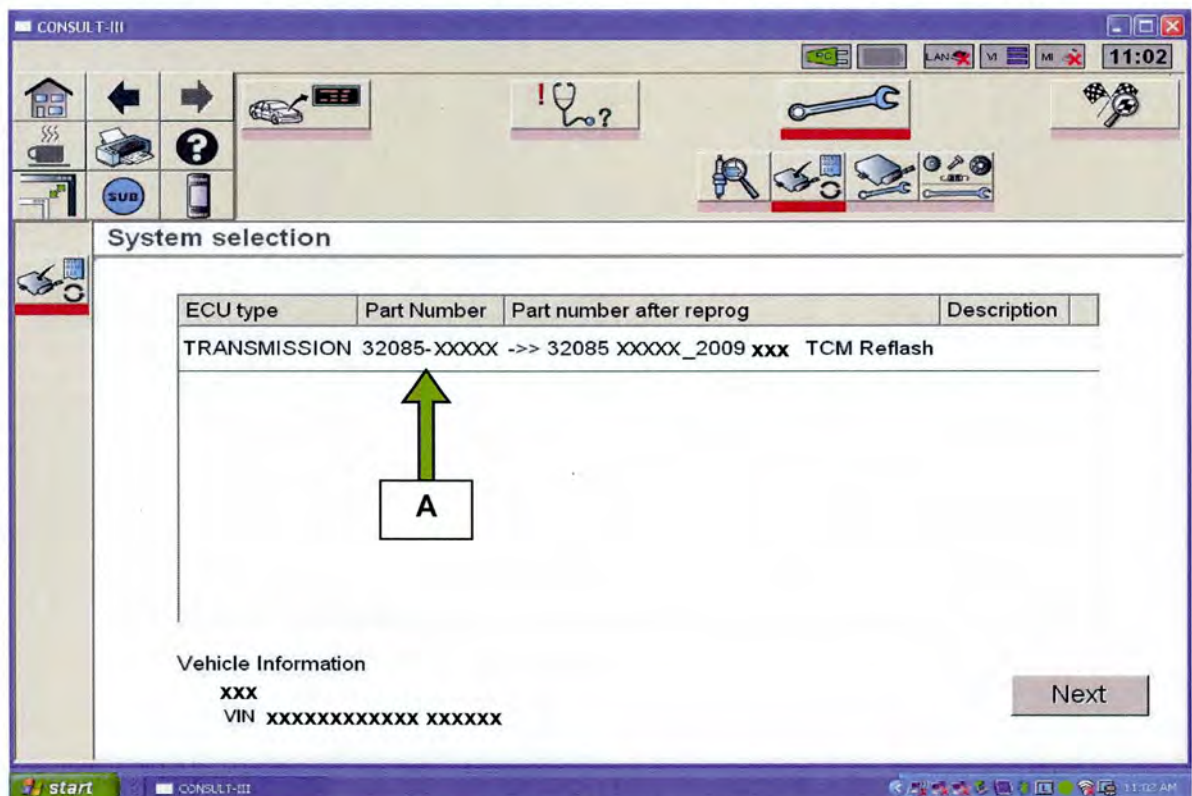

Figure 13
2. When you get to the TCM Reprogramming screen shown in Figure 13, confirm TCM reprogramming applies as follows: